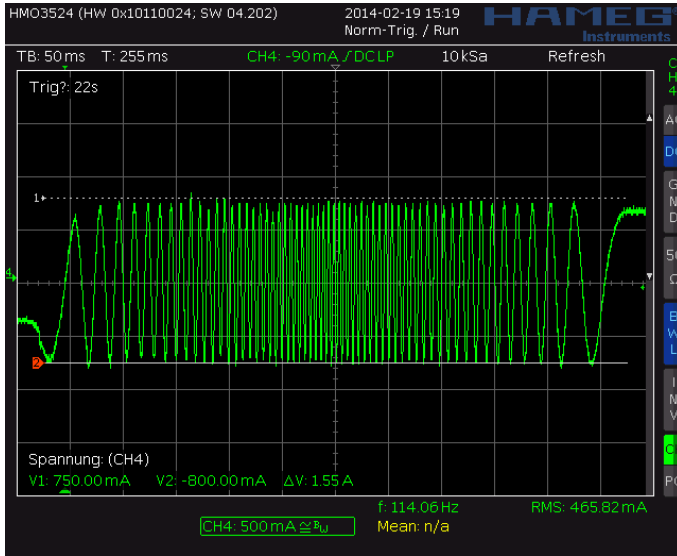
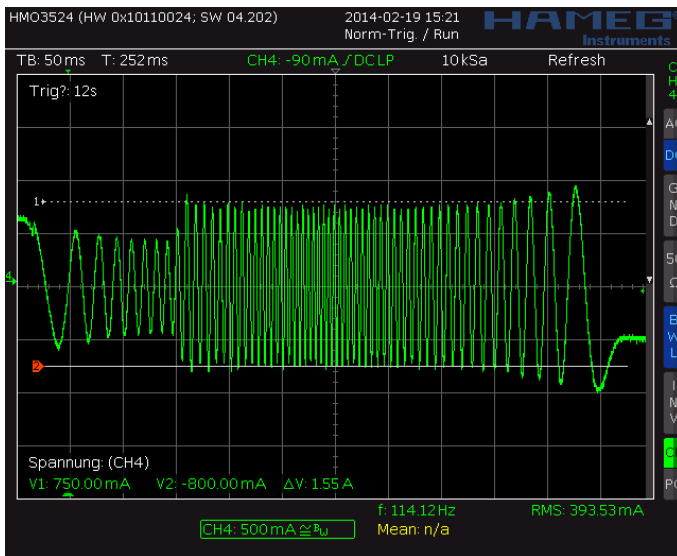
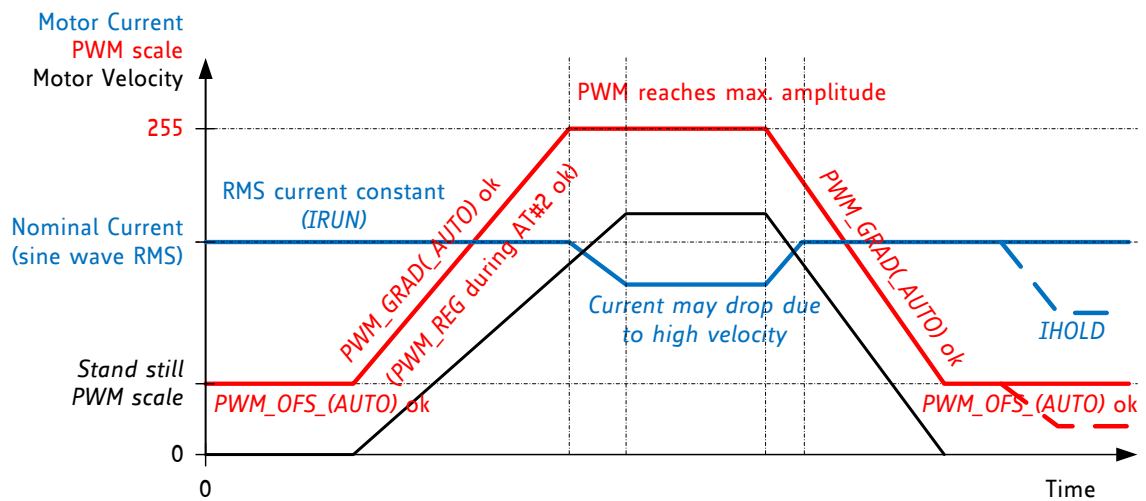

Figure 6.3 Scope shot: good setting for PWM_REG
Figure 6.4 Scope shot: too small setting for PWM_REG during AT#2
Figure 6.5 Successfully determined PWM_GRAD(AUTO) and PWM_OFs(AUTO)
In StealthChop voltage PWM mode, the autoscaling function ($pwm_autoscale = 1$, $pwm_auto_grad = 1$) regulates the motor current to the desired current setting. Automatic scaling is used as part of the automatic tuning process (AT), and for subsequent tracking of changes within the motor parameters. The driver measures the motor current during the chopper on time and uses a proportional regulator to regulate PWM_SCALE_AUTO in order match the motor current to the target current. PWM_REG is the proportionality coefficient for this regulator. Basically, the proportionality coefficient should be as small as possible in order to get a stable and soft regulation behavior, but it must be large enough to allow the driver to quickly react to changes caused by variation of the motor target current (e.g. change of VREF). During initial tuning step AT#2, PWM_REG also compensates for the change of motor velocity. Therefore, a high acceleration during AT#2 will require a higher setting of PWM_REG . With careful selection of homing velocity and acceleration, a minimum setting of the regulation gradient often is sufficient ($PWM_REG=1$). PWM_REG setting should be optimized for the fastest required acceleration and deceleration ramp (compare Figure 6.3 and Figure 6.4). The quality of the setting PWM_REG in phase AT#2 and the finished automatic tuning procedure (or non-automatic settings for PWM_OFS and PWM_GRAD) can be examined when monitoring motor current during an acceleration phase Figure 6.5.